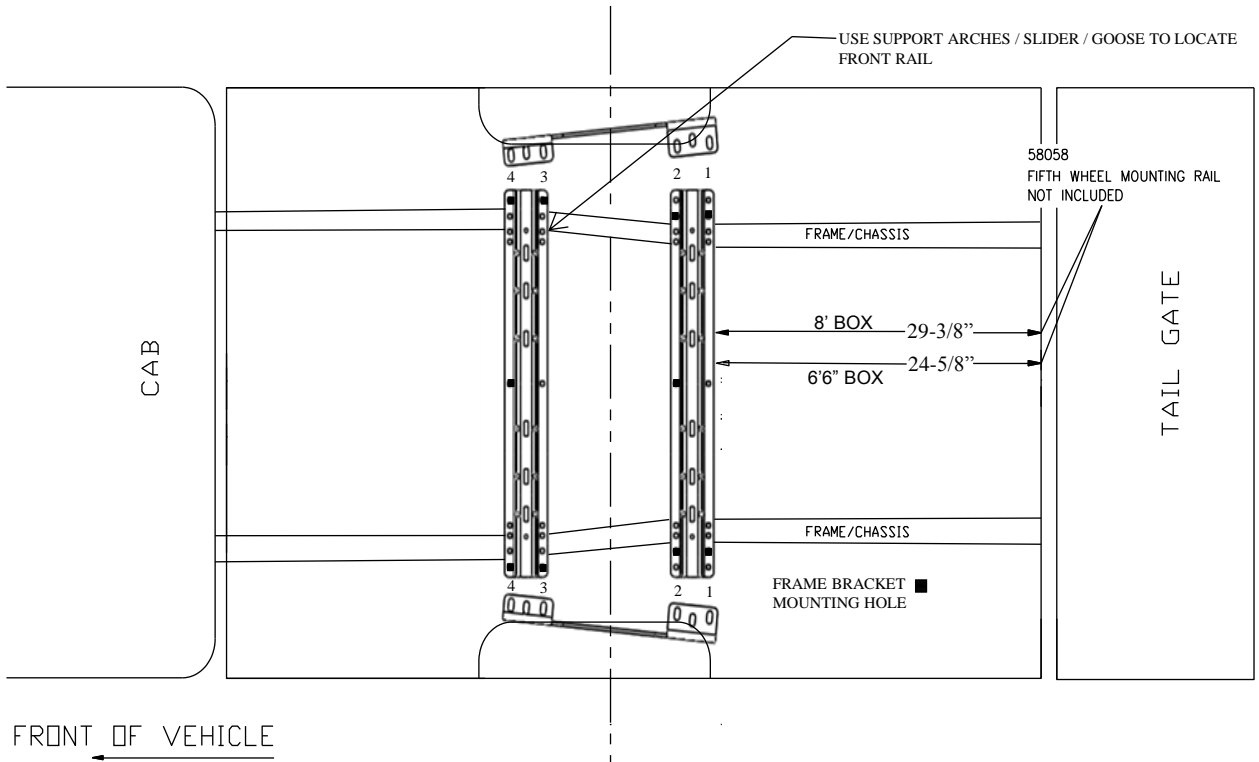

Figure 2A
5. Place one mounting rail in the bed of the vehicle. Center the rail on the floor of the truck bed and use your tape measure to locate the proper distance from the rail to the rear edge of the truck box as illustrated on page 2, Figure 2A.
12. Use a center punch to mark the holes in the front rail as per the illustration. Use the outside holes as shown in Figure 2A. Move the rail out of the way and drill each position with a 1/8" drill bit. Check that the 1/8" drilled holes align with the slots in the frame brackets. If not, re-position the 1/8" holes.